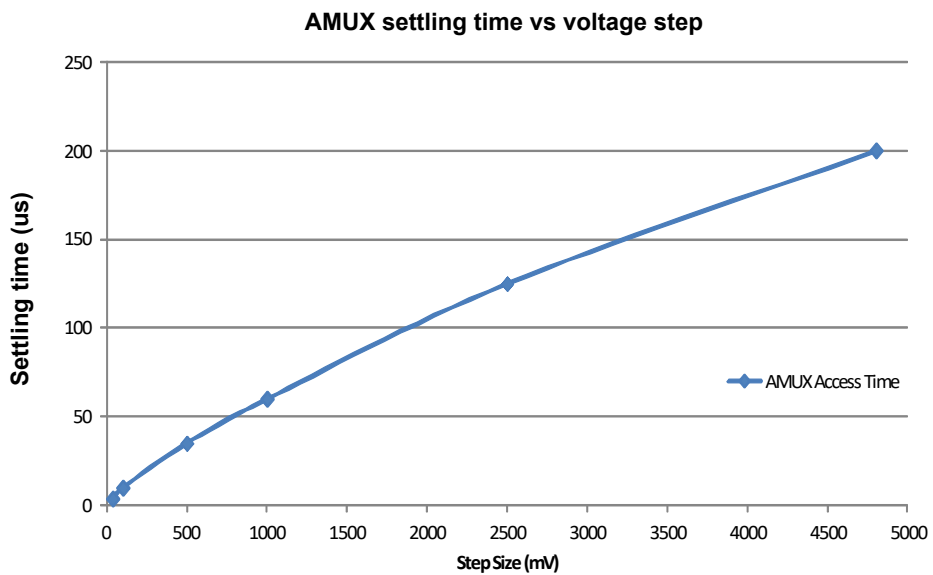

Figure 10. AMUX access time waveform
26. AMUX settling time to be within the 10 mV offset specification.  $\text{AMUX}_{\text{VALID}}$  is dependent of the voltage step applied on the input SGx/SPx pin or the difference between the first and second channel selected as the multiplexed analog output. See Figure 10 for a typical AMUX access time VS voltage step waveform.